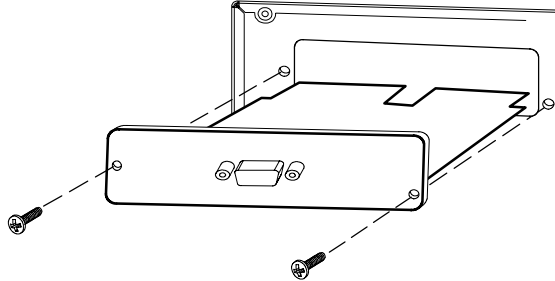

Figure 23. Removing the Single-Port Card
1. Remove the Single-Port card on the UPS rear panel. Retain the screws (see Figure 23).